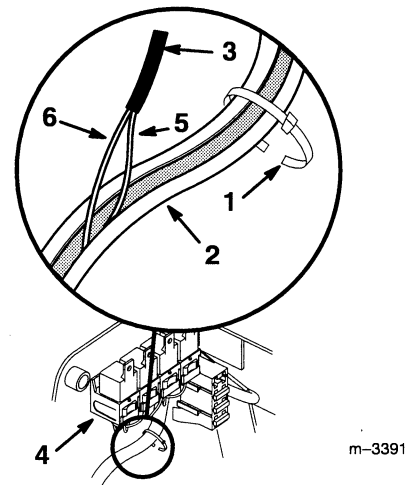

Figure 3
1. Cut the tie wrap securing the plastic cover around the wires (Fig. 3).
2. Pull the wires out of the cover, exposing the diode located about 5 to 6 in. from the relay holder (Fig. 3).